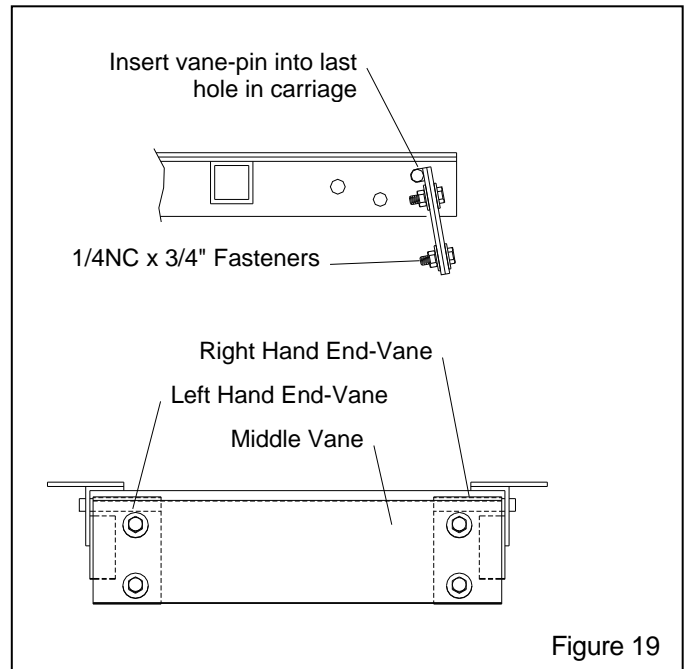

Figure 19
2.7.3.5 The vane closest to the elevator is installed differently. Refer to Figure 19 and the frame assembly drawings. The assembly consist of a short left and right-hand end-vane with pivot rod, and a 14-9/16-inch middle vane.
2.7.3.6 Insert the end-vane pins into the holes as shown in Figure 19. The flat side (away from the pivot rod) is toward the elevator. Bolt the middle vane to end-vanes